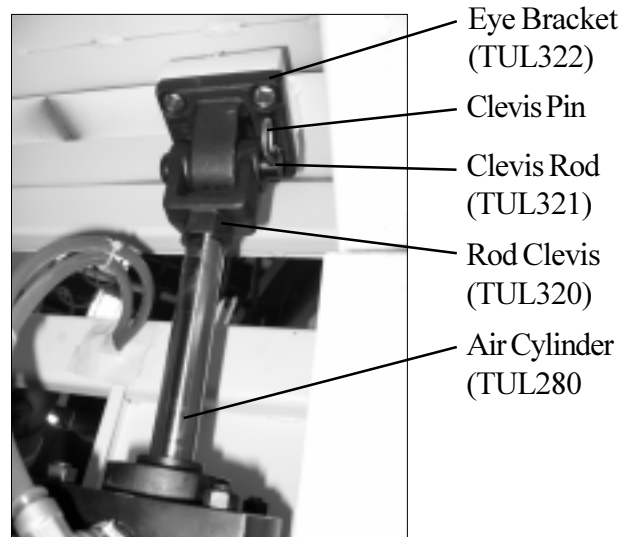
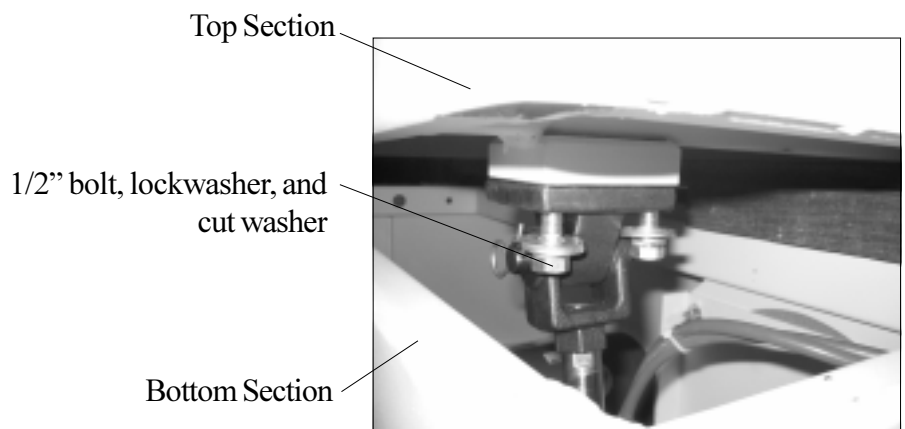

Figure-2B
Figure-2C
STEP 6: Disconnect hoses from cylinder at quick connection, **Caution: Make sure the hoses are connected back in the same order. If the hoses are reversed, than the dryer will not tilt properly.** Put clevis rod through eye bracket and cylinder rod. Put pin through clevis rod to prevent pin from working loose. Pull cylinder rod out until it touches the bottom of top section. (See Figure-2B). Use 1/2" bolts, lock washers, and cut washers to mount eye bracket to bottom section (See Figure-2C). Repeat this step on other side.